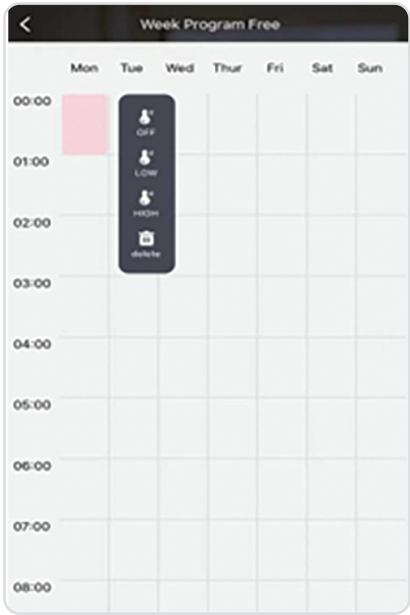

Fig. 10
- 5. Entering the Weekly Program, you can select the appropriate temperature for 24 hours on any day of the week, as shown in Fig. 10.